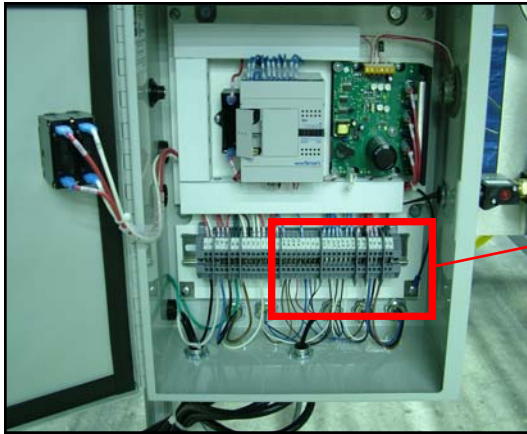

Figure 19
22. Open the control panel door. (See Figure 19)